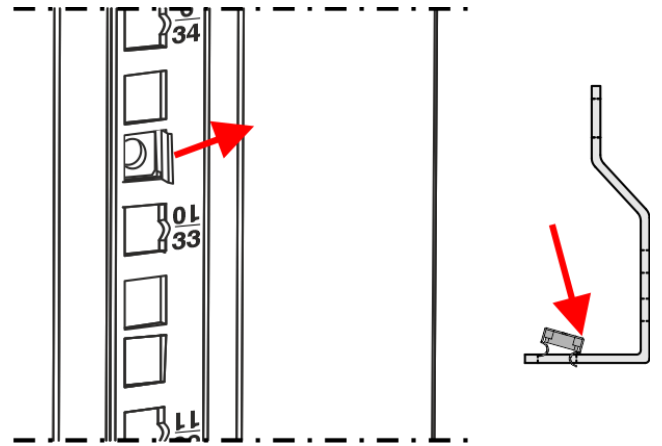

Fig. 44
- 02) Insert one side of the **cage nut (M)** into the **vertical bracket (G)**, as shown in Fig. 44.